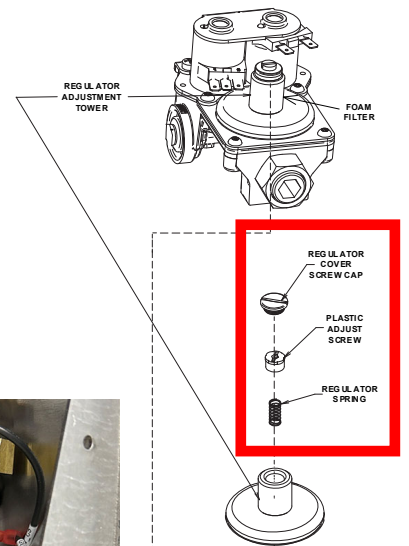

Figure 19
- 17) Remove gas valve adjustment cap and adjustment screw and **BLUE** gas spring from **BOTH** the gas valves (see Figure 19).
- 27) Remove the regulator cover screw cap (see Figure 19).